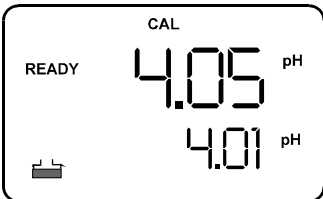

Figure 3: 2nd-point calibration
13. Wait for the measured pH value to stabilize (when the [READY] indicator displays in the left-hand corner). (see Figure 3).